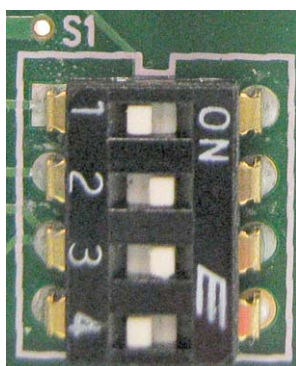
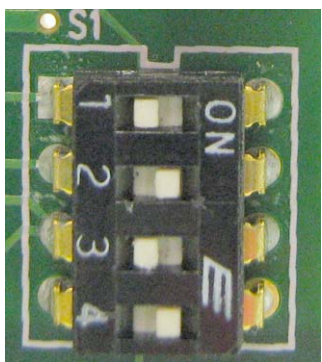
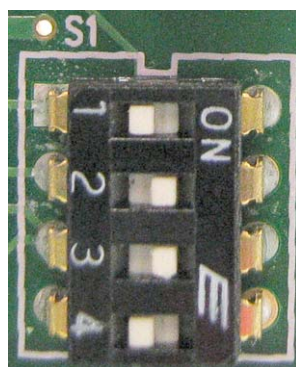

FIGURE 4. RTS Standard Cable (USOC)
FIGURE 5. Standard CAT-5 Cable using pin 1 and pin 2 for RS485 functionality (568A)
FIGURE 6. Standard CAT-5 Cable using pin 7 and pin 8 for RS485 functionality (568B)
NOTE: See Figures 4, 5, 6 for specific switch settings for the type of RJ-45 cable connection used.
Use the Switch Bank, shown in Figure 4, Figure 5, and Figure 6 to configure the cable scheme you want to use. There are three (3) available Ethernet cabling arrangements:
7. Using a pen or screwdriver, set the **switches** to the type of operation you desire. For operation modes, see Figure 4, Figure 5, or Figure 6.
Because the KP 12 CLD has a separate KP 12 CLD expansion panel, when setting the mode of operation when the KP 12 CLD expansion panel is installed, you must set the dip switches within the expansion unit rather than the keypanel unit. Use the Switch Bank, shown in Figure 4, Figure 5, and Figure 6 to configure the mode of operation you desire:
8. Using a pen or screwdriver, set the **switches** to the type of operation you desire. For operation modes, see Figure 4, Figure 5, or Figure 6.